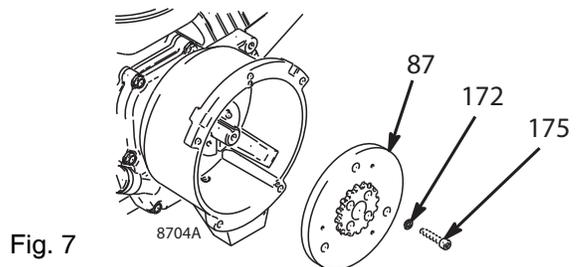

Fig. 7
- 9 Fig. 7. Use an impact wrench to wedge between armature (87) and clutch housing to hold engine shaft during removal.
- 10 Remove four screws (175) and lock-washers (172).
- 11 Remove armature (87).